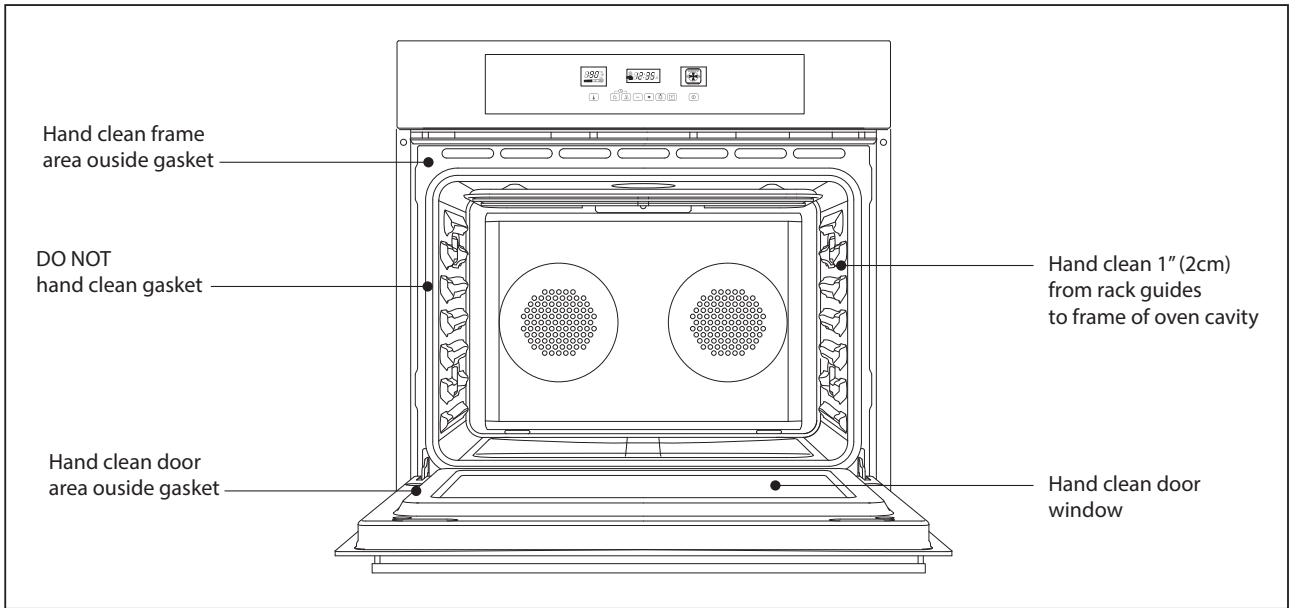

Figure 6
- **Frame Outside Door Gasket Area** - Make sure oven is cool then use warm soapy water With a non-abrasive plastic scrubbing pad clean the frame surface outside the door gasket area This area must be cleaned by hand because the area outside the gasket does not get hot enough to burn off the soil (see Figure 6)
- **Door Outside Gasket Area** - Make sure oven is cool then use warm soapy water With a non-abrasive plastic scrubbing pad clean the area outside the door gasket area This area must be cleaned by hand because the area outside the gasket does not get hot enough to burn off the soil (see Figure 6)